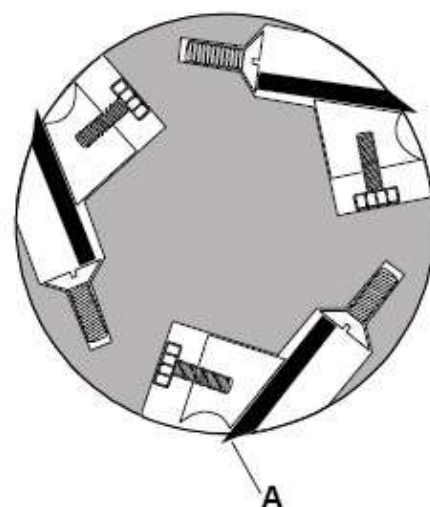

Figure 14
2. Rotate the cutterhead such that one of the knife blades (A, Fig. 14) is at the 6 o'clock position.